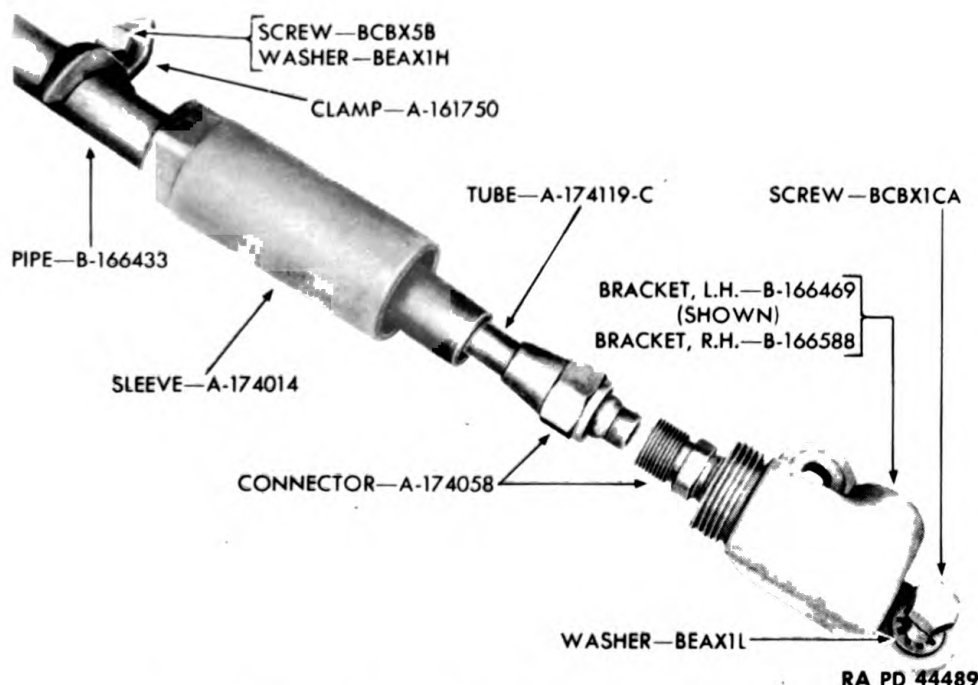

Figure 291—Pipe and Clamp Group—Front End
d. Disassemble Pipe and Clamp Group (figs. 291 and 292).